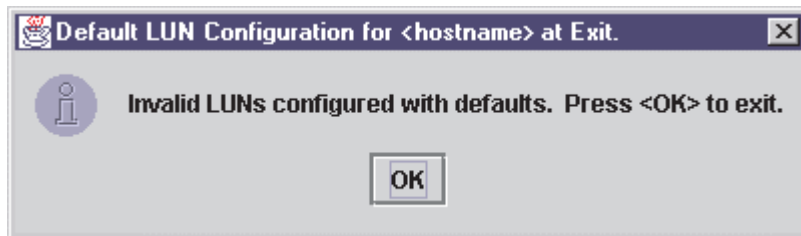

Figure 30. Invalid LUNs Configured with Defaults Error dialog window
- Click **Yes** if you want the software to configure the invalid LUNs with the default paths. The confirmation message shown in Figure 30 displays. Click **OK**.